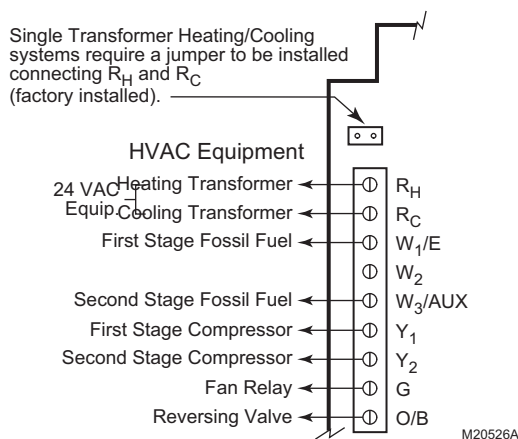

Fig. 22. Dual fuel with two-stage heat pump and one- or two-stage fossil fuel.
- Connect second stage of compressor to Y2. See Fig. 22.